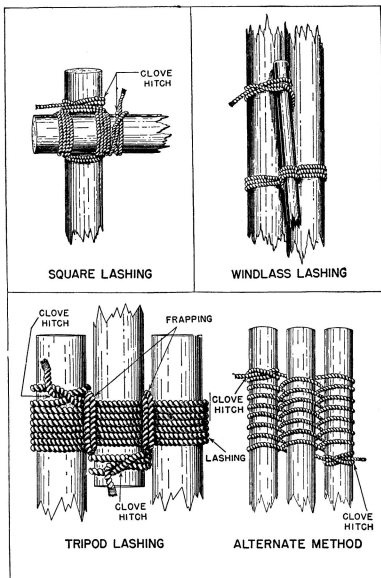

FIGURE 52.—Details of lashings and spars.
■ 28. LASHINGS AND SPARS.—*a. Square lashing (two spars at right angles)* (see fig. 52).—To lash two spars at right angles make a clove hitch around the upright a few inches above the transom. Bring the lashing under the transom, up in front of it, horizontally behind the upright, down in front of the transom, and back behind the upright at the level of the bottom of transom and above the clove hitch. Keep the following turns outside the previous ones on one spar and inside on the other, not riding over the turns already made. Make four more turns. Make two frapping turns between the spars, around the lashing, and finish the lashing off either around one of the spars or any part of the lashing through which the rope can be passed. Do not make the final clove hitch around the spar on the side toward which the stress is to come, as it may jam and be difficult to remove. While tightening, beat the lashing with a handspike or pick handle.
b. Three spars for tripod (see fig. 52).—(1) To lash three spars together as for a gin or tripod, mark on each spar the location of the center of the lashing. Lay two of the spars parallel to each other with an interval a little greater than the diameter. Rest their tips on a skid and lay the third spar between them with its butt in the opposite direction, so that the marks on the three spars will be in line. Make a clove hitch on one of the outer spars about 4 inches above
(2) Figure 52 also illustrates an alternate method for lashing three poles together for a tripod.